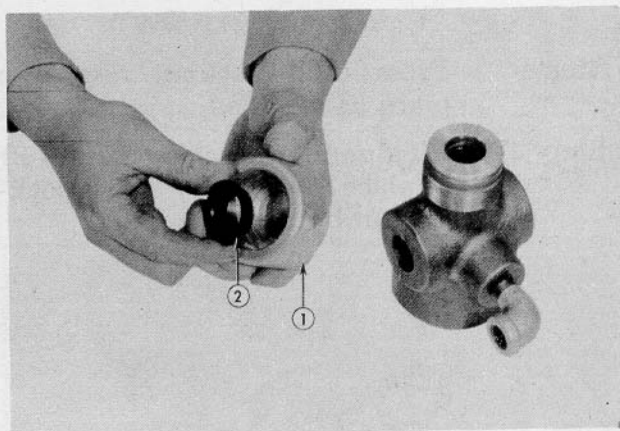

Fig. 16
Step 5—Remove packing nut (1—Fig. 16) from yoke.
Step 6—Remove wiper from packing nut and install new wiper (2—Fig. 16).